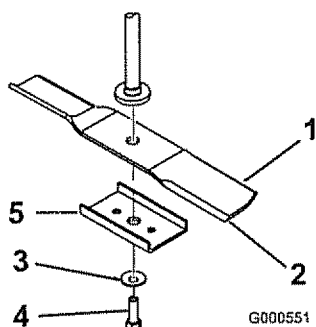

Figure 43
Hold the blade end using a rag or thickly-padded glove. Remove the blade bolt, curved washer, blade stiffener, and blade from the spindle shaft (Figure 43).
1. Install the blade onto the spindle shaft (Figure 43).
2. Install the blade stiffener, the curved washer (cupped side toward the blade) and the blade bolt (Figure 43).